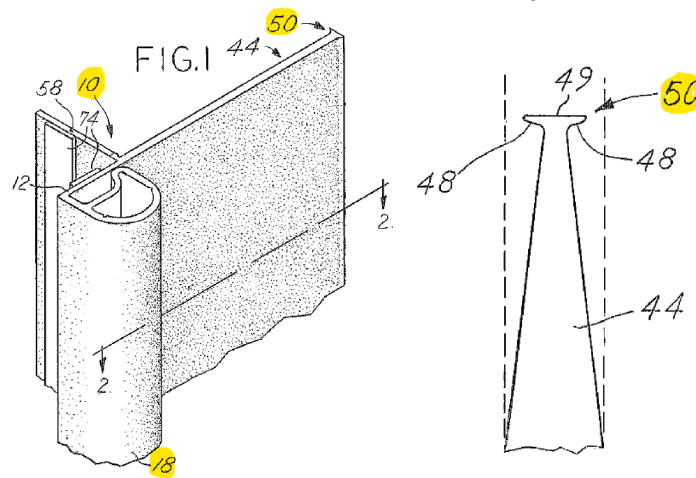

Figure 1 - Jaeger-Unitek Patent US 9,045,027 B2
Due to RV manufacturers desiring a state-of-the-art sealing system, a new one-piece, integrated slide-out seal design was created to consolidate components, improve function, reduce installation time, minimize storage space requirements, and capitalize on the performance of the best automotive sealing polymers (Figure 1).
In Figure 1, the one-component, integrated design incorporates these critical features to enhance function: the locating leg (10), which utilizes the higher modulus polymer for secure mounting to the RV body; the flared wiper tip (50), which specifies the low durometer polymer for effective water management; and the unique bulb design (18), which creates a geometry for enhanced bulb recovery following static and dynamic loading.